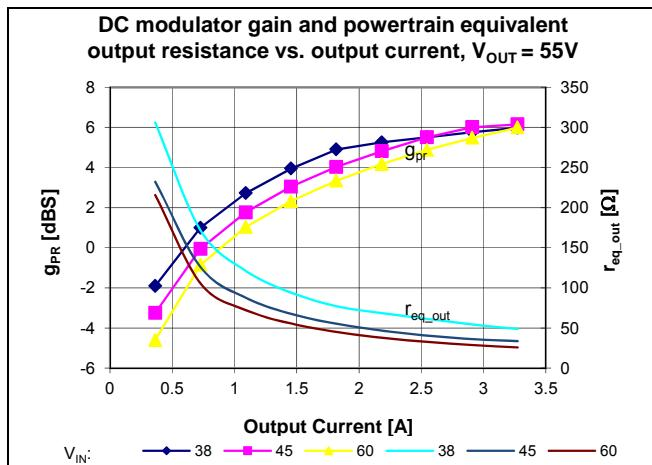

Figure 17 – Powertrain characteristics vs. I_{OUT} ; Resistive load, $V_{OUT} = 55V$, various V_{IN}
The powertrain small signal (plant) response consists of a single pole determined by the load resistance, the powertrain equivalent output resistance, and the total output capacitance (internal and external to the module). Both the modulator gain and the equivalent output resistance vary as a function of line, load and output voltage, as shown in Figures 17, 18 and 19. As the load increases, the powertrain pole moves to higher frequency. As a result, the closed loop crossover frequency will be the
- Modulator Gain G_{PR} : See Figures 17, 18, 19
- Powertrain equivalent resistance r_{EQ} : See Figures 17, 18, 19